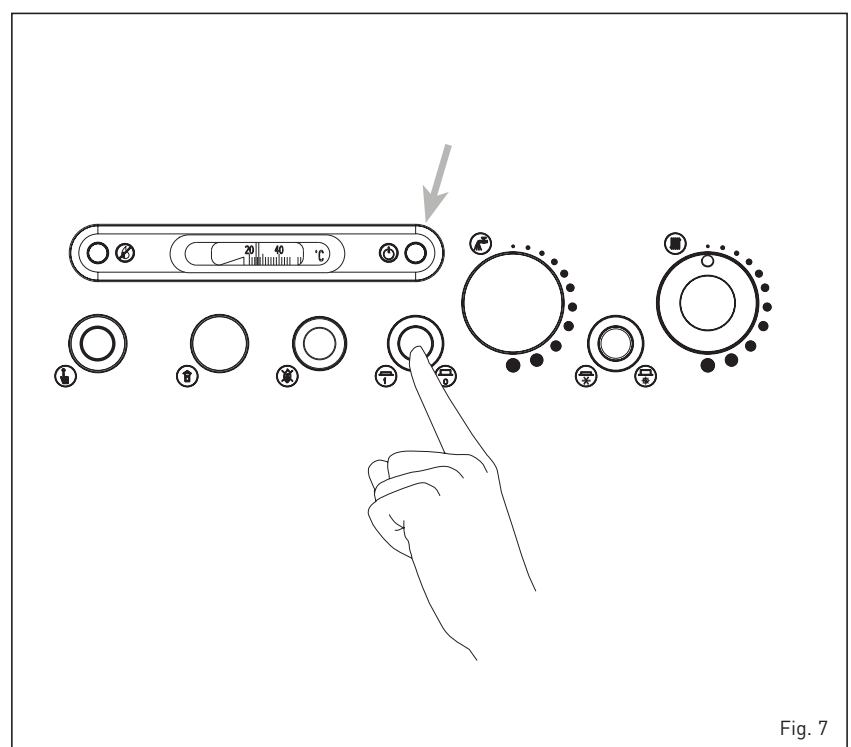

Fig. 7
3.2.1 Lighting the boiler (fig. 7)
3.2.5 Turnig OFF boiler (fig. 7)